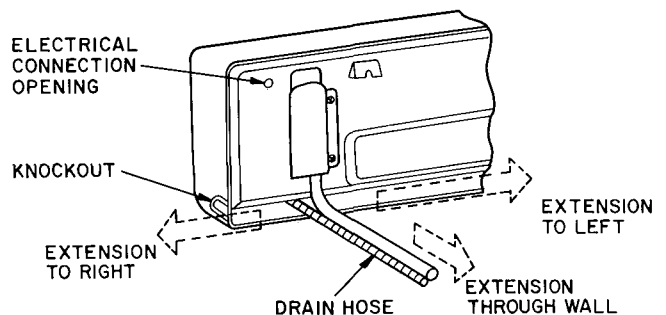

Fig. 5 — Extending Drain Hose
Step 3 — Shape Indoor Piping and Drain Hose — (See Fig. 5.)